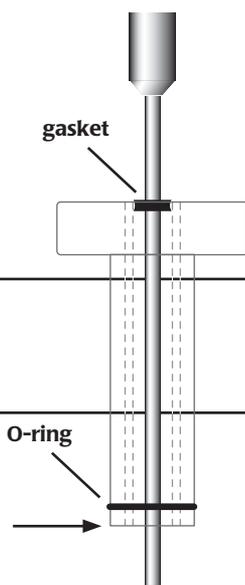

Fig. 4—Top Fitting Cap with electrode in place. Base of cap (see arrow) should touch the surface of the solution in the chamber.
6. Position the bottom of the Top Fitting Cap at the surface of the experimental solution. Ensure that at least one millimeter of the electrode is in the solution. Push the electrode further down into the Cap as necessary. The gasket holds the electrode in place and seals the chamber. (Fig. 4)